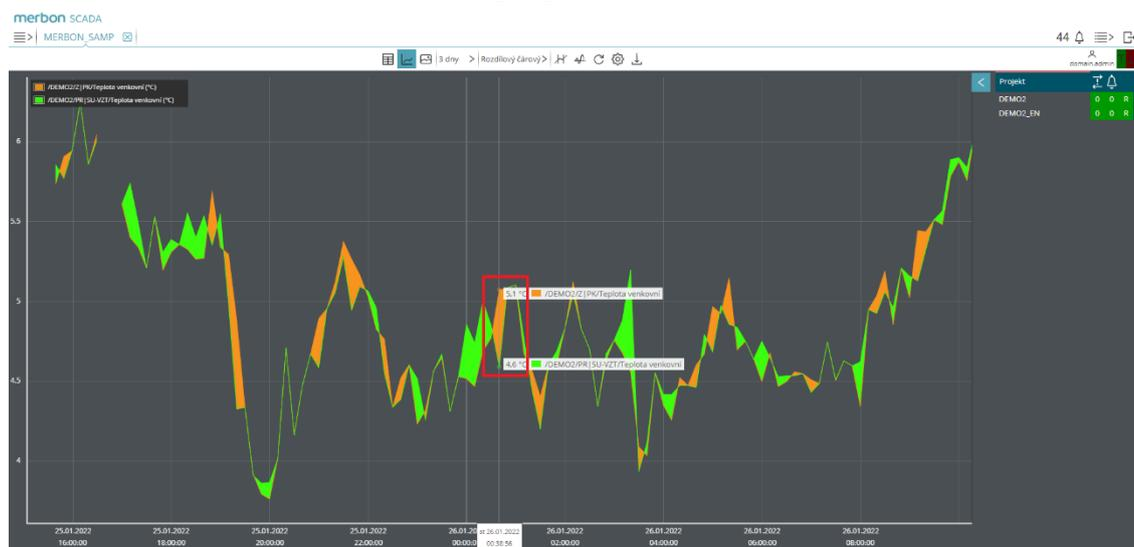

Fig. 17: Differential line chart
- **Differential line chart** – This type is basically just a graphical function that can be used to compare multiple datapoint series. It draws the datapoints connected with lines and fills the space between with the color of the series that has higher value in the specific moment of time. E.g.: Fig. 17.